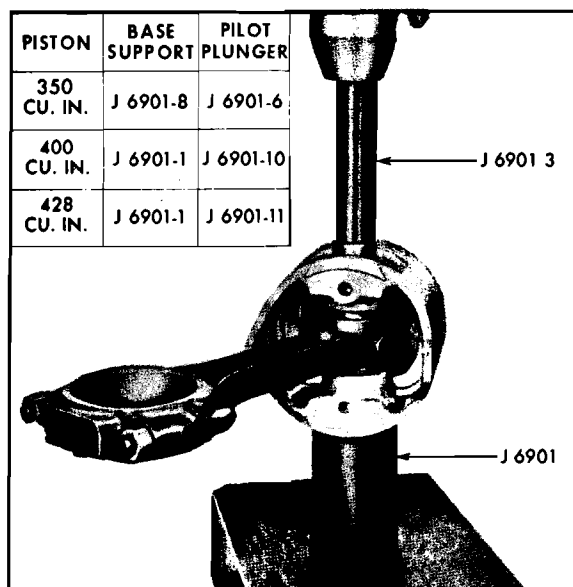

Fig. 6-123 Installing Piston Pin
1. Place pilot plunger and spring in the support base to be used as a pilot end stop. See Fig. 6-123 insert for correct base support and pilot plunger for type pistons being serviced.
4. Place tool J 6901-3 in piston pin and press pin into piston and connecting rod (Fig. 6-123) until piston pin bottoms against plunger of tool J 6901. Piston must turn freely on pin. If piston binds on pin, disassemble, hone piston pin bosses slightly and reassemble.